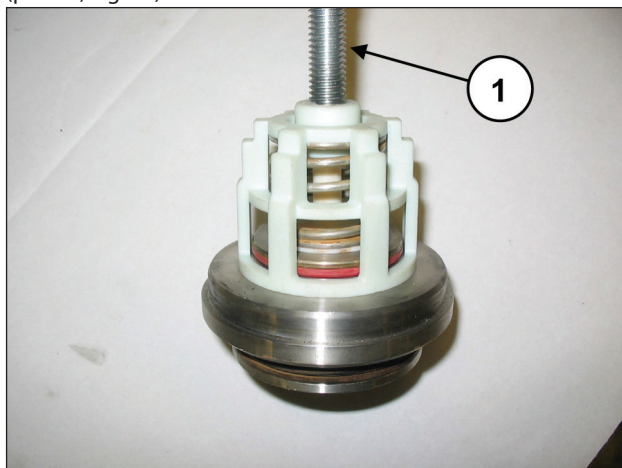

Fig. 97
Remove the suction and outlet valve inserts, inserting and tightening an M10 screw in such a way to press on the inner guide and remove the valve guide from the valve housing (pos. ①, Fig. 97).